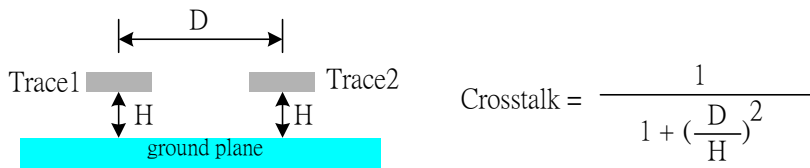

Figure 13-2 Approximate equation to estimate crosstalk
2. Avoid routing of S/PDIF-IN trace parallel to S/PDIF-OUT. Figure 13-2 shows an approximate equation to minimize crosstalk, distance (H) with reference plane must be minimized, and distance (D) between traces must be maximized. (Refer to “High Speed Digital Design”. Johnson, H. W., and M. Graham. 1993. Englewood Cliffs, NJ: Prentice Hall)